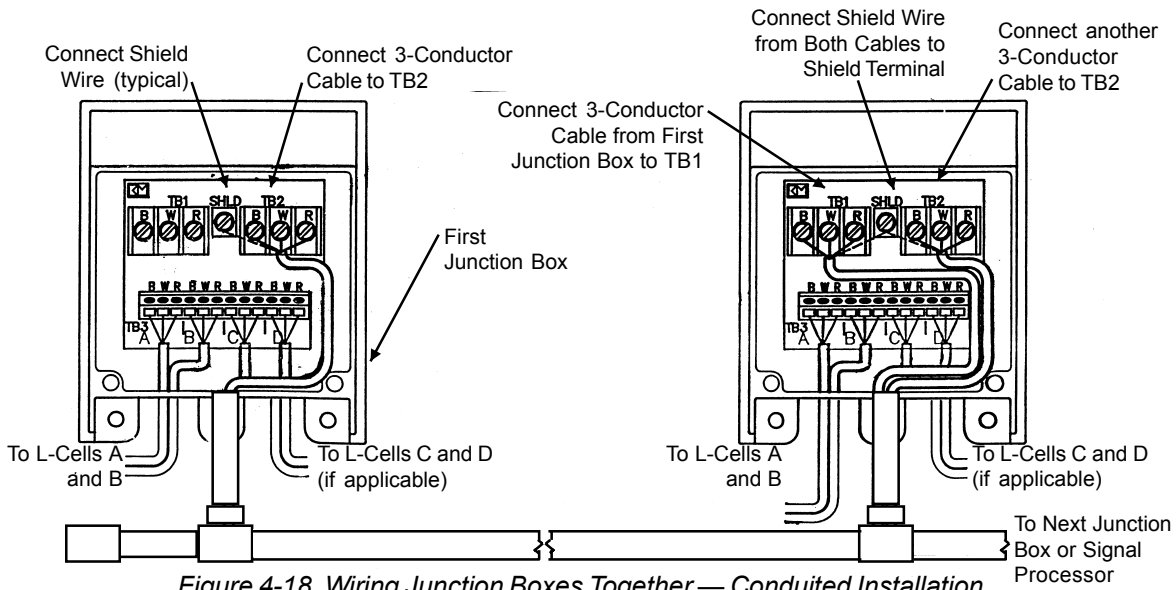
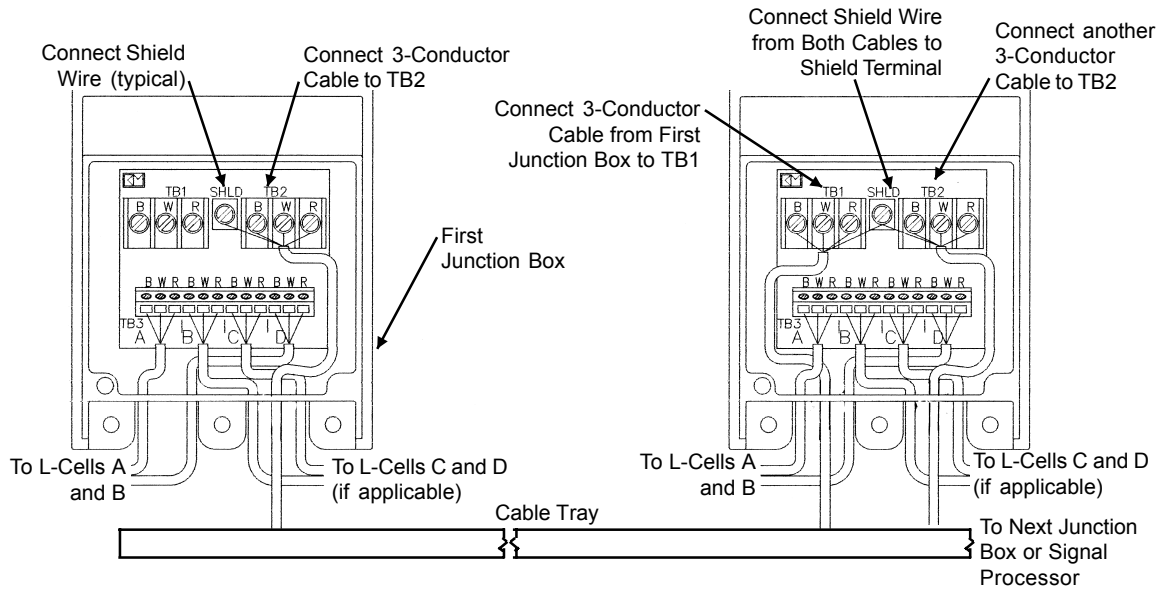

Figure 4-18. Wiring Junction Boxes Together — Conduited Installation
Figure 4-19. Wiring Junction Boxes Together — Non-Conduited Installation
2. See Figure 4-18 (conduited installation) or Figure 4-19 (non-conduited installation). Route the 3-conductor cable through the fitting into the junction box farthest from the signal processor. Connect wires from the cable to the TB2 terminal in the junction box: black wire to B terminal, white wire to W terminal, and red wire to R terminal. Connect the cable shield wire to the Shield terminal between TB1 and TB2.